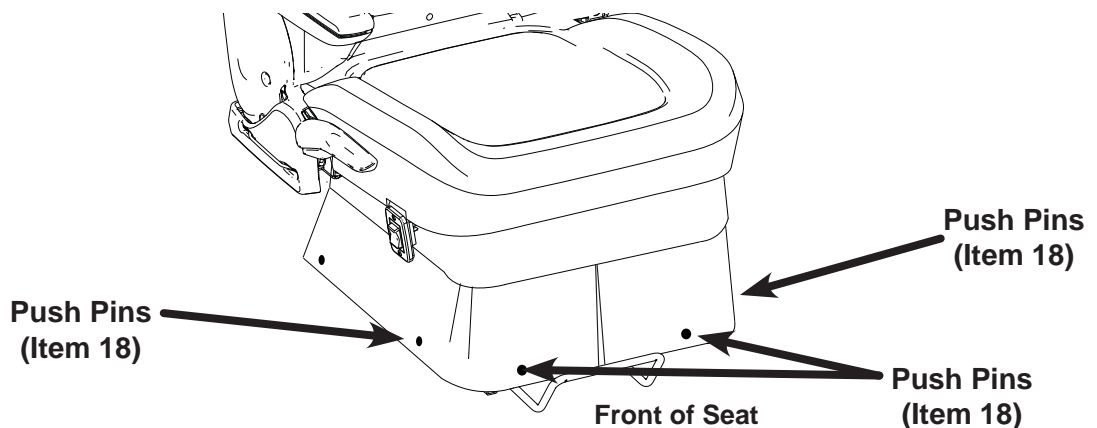

Fig. 12
17. Remove the (2) front push pins and the (1) forward push pin on each side of seat skirt using forked pry tool. See Fig. 12
See Fig. 12